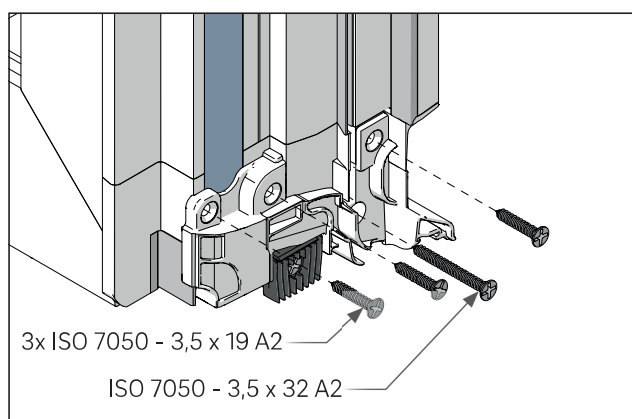
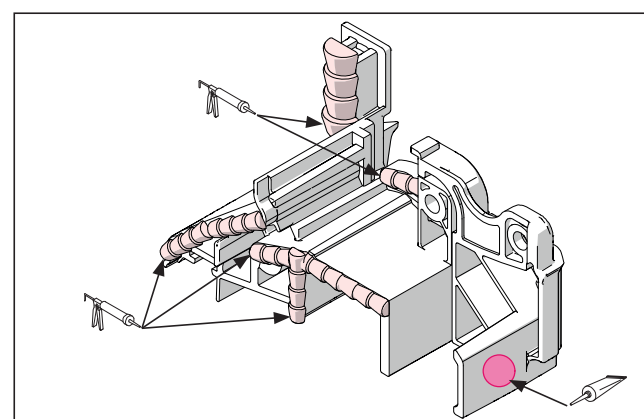

Fig. 13: Installation of the weather rail mullion end cap 1368289/1368290
Fig. 14: Silicone and adhesive details: sealing of weather rail mullion end cap 1368289/1368290
- Then seal the end cap 1368289/1368290 to the adapter profile (silicone bead and PVC adhesive on the mullion end cap as shown in fig. 14) and install with the stainless-steel screws (fig. 13).